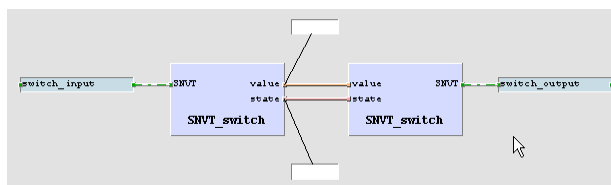

Figure 25: Online Test fields
13. Place the fields above and below the drawing as shown in Figure 25, then press the **Save** button to save your changes.